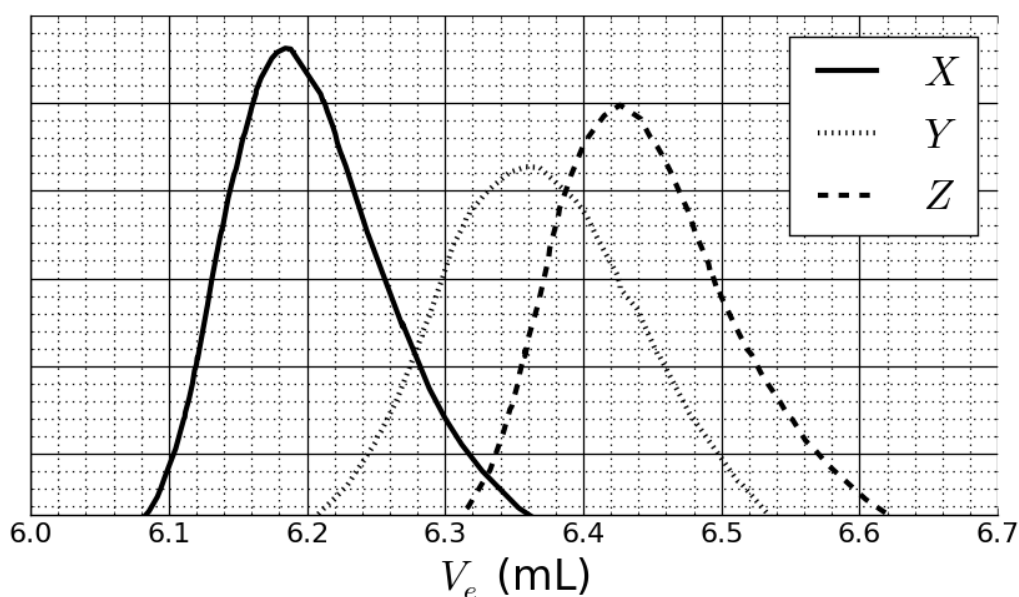

Fig. 2 – SEC chromatograms of **3a**, **3b** and **3c** as a function of the elution volume,  $V_e$ .
This reaction of **1** with **2** yielded the copolymers **3a** after 20 h, **3b** after 25 h and **3c** after 30 h of reaction at  $40^\circ\text{C}$ . Results of size-exclusion chromatography (SEC) experiments are presented in Fig. 2.
6. **Match** the signals in Fig. 2 with the copolymers **3a**, **3b** and **3c**.
7. Based on the SEC curves in Fig. 2 and 3, **determine**  $V_e$  of the polymer that corresponds to curve X and use it to **estimate** the degree of polymerization  $m$  of its second block. **Detail** your calculation; you may use a calculator or plot a graph.